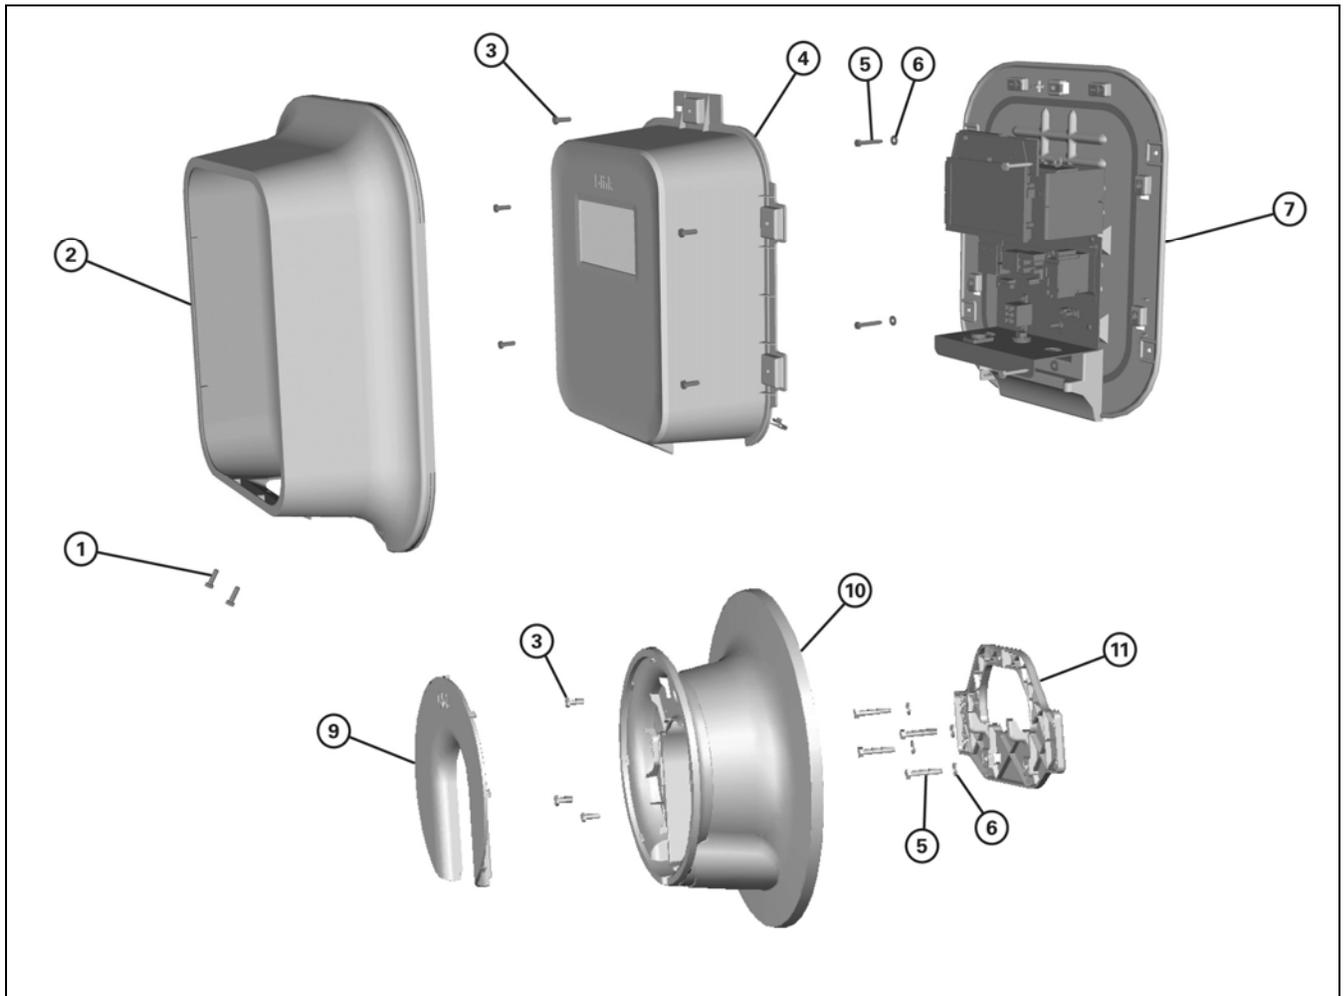

Figure 4 — Charger Housing Assembly and Cord Reel
- Place the charger housing assembly back in position on the wall and install four 1/4-inch lag screws with washers (Items 5 and 6, Figure 4) to secure the housing assembly in place. Tighten the screws enough to remove any gaps between the wall, housing base plate, washer and screw head.
- Place the cord reel cleat (Item 11, Figure 4) in the desired location on the wall with the mounting holes in the cleat over the marked studs, if applicable.
- Place the cleat back in position on the wall and install four 1/4-inch lag screws with washers (Items 5 and 6, Figure 4) to secure the cleat in place. Tighten the screws enough to remove any gaps between the wall, cleat, washer and screw head.
7. Place the cord reel in position on the cleat. Using a socket wrench with extension, install three M6 hex-head bolts (Item 3, Figure 4) to attach the reel to the cleat. Tighten the bolts to 35-38 in-lb (4.0-4.3 Nm).
1. Remove five M6 hex-head bolts (Item 3, Figure 4); then, remove the charger housing cover from the charger assembly. DO NOT remove the four lag bolts securing the charger base to the wall.
9. With the service wiring complete, place the housing cover in position on the charger assembly and install five M6 hex-head bolts (Item 3, Figure 4) to secure the cover in place. Tighten the bolts to 35-38 in-lb (4.0-4.3 Nm).
- Install two Torx-head screws (Item 1, Figure 4) at bottom to secure the bezel to the charger housing.